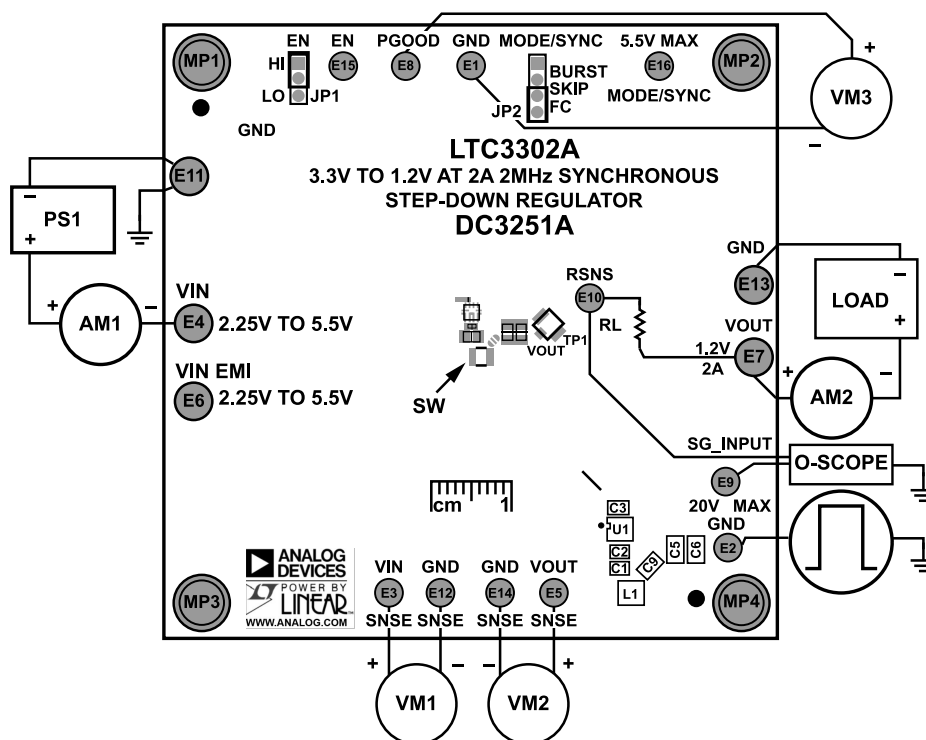
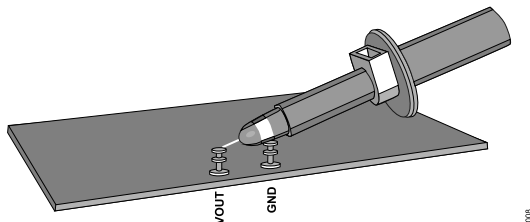

Figure 3. Test Setup for the DC3251A Demo Board
Figure 4. Technique for Measuring Output Ripple and Step Response with a Scope Probe
Demonstration circuit DC3251A is easy to set up and use to evaluate the performance of the LTC3302A. For the proper measurement equipment setup, see Figure 3 and follow the procedure below:
NOTE: For accurate V_{IN} , V_{OUT} , and efficiency measurements, measure V_{IN} at the V_{IN} SNSE and GND SNSE turrets, and V_{OUT} at the V_{OUT} SNSE and GND SNSE turrets as shown as VM1 and VM2 in Figure 3. When measuring the input or output voltage ripple, care must be taken to avoid a long ground lead on the oscilloscope probe. Measure the output voltage ripple by touching the probe tip directly across the output turrets or to TP1 as shown in Figure 4. TP1 is designed for a 50 Ω coax cable to reduce any high frequency noise that might couple into the oscilloscope probes.
4. Connect an oscilloscope voltage probe as shown in Figure 4 in parallel with VM2. Set Channel to AC-coupled, voltage scale to 20 mV and time base to 10 μ s. Observe the V_{OUT} ripple voltage.
12. To test the transient response with a base load, add the required resistor to produce a minimum load between V_{OUT} and RSNS turrets (R_L shown on Figure 3). Note that the total load resistance is R_L plus R_8 (100 m Ω).